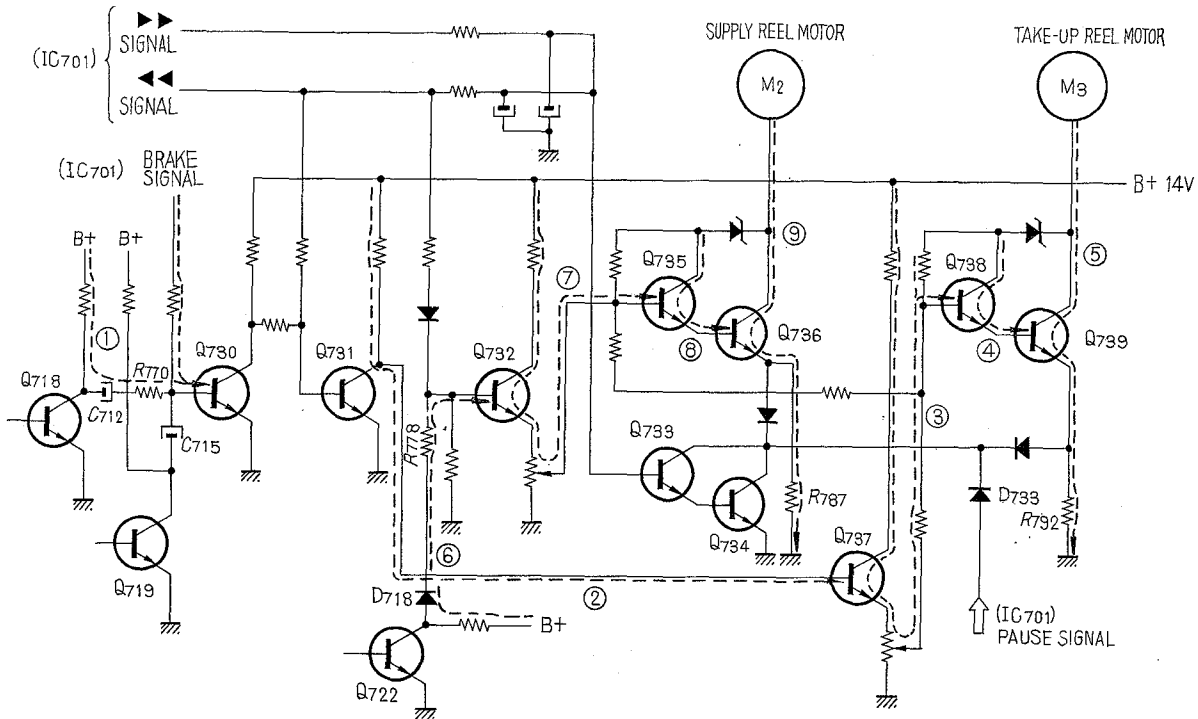

Fig. 1-13.
(4) Motor drive circuit (Fig. 1-13)